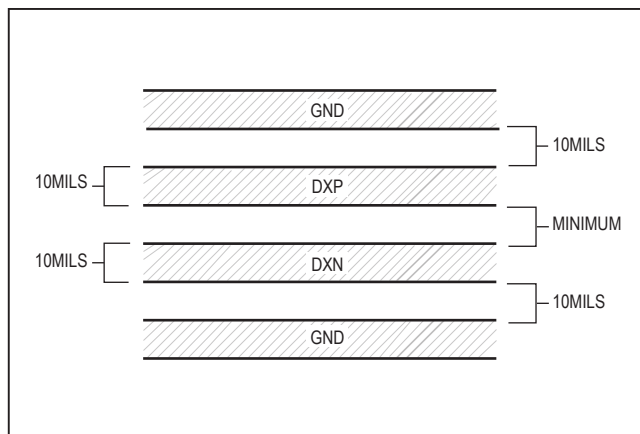

Figure 5. Recommended DXP/DXN PC Traces
- 4) Connect guard traces to GND on either side of the DXP-DXN traces when possible (Figure 5). With guard traces in place, routing near high-voltage traces is no longer an issue.
- 7) Use wide traces. Narrow traces are more inductive and tend to pick up radiated noise. The 10-mil widths and spacings recommended in Figure 5 are not absolutely necessary (as they offer only a minor improvement in leakage and noise), but use